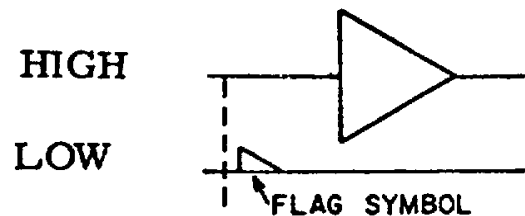

Figure 4-1. Signal Level Flag-Symbol
**4-8.** In the logic diagrams, wherever possible, all inputs are brought in on the left-hand side of the diagram. At the point on the diagram where a signal enters the module, the signal level is indicated which represents the true condition for that signal. The signal level is indicated by the presence or absence of a flag symbol (1) on the input line (See Figure 4-1). If the flag is present at the input, the true condition is a low-level input. If no flag is present, the true condition is a high-level signal. Thus the input signal for an amplifier is true when high, and the input signal for another circuit is true when low.